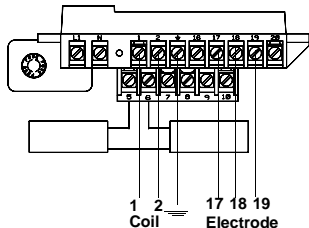

FIGURE 1. Model 8712C/U Terminal Block.
4. Insert one end of the wiring assembly into the Model 8714D Calibration Standard; wire the contact end of the wiring assembly to the transmitter. See Figures 1 and 2 on the following page for detailed instructions regarding Model 8712C/U and Model 8732C.
Model 8712C/U (Figure 1): Use the six contact Pin terminal plug-style wiring assembly. Follow the numeric convention for the 8712C/U so the plugs match the terminal block.